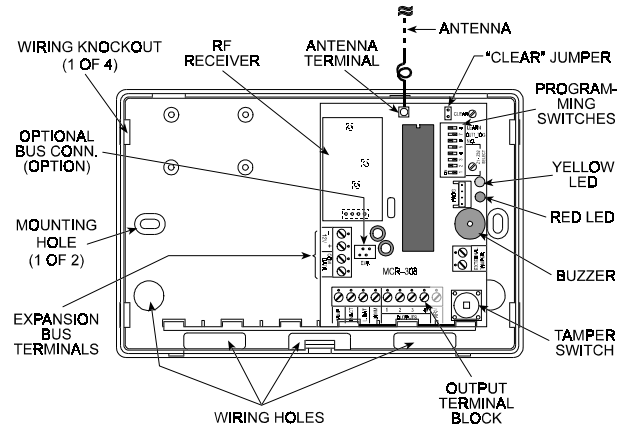

Figure 2. MCR-308 with Cover Removed
- B. The semi-rigid antenna supplied with the MCR-308 is taped to the inner part of the cover. Detach the antenna from its storage position, insert its straight tip into the antenna terminal and **tighten the screw well**. See Figure 2 for antenna terminal location.